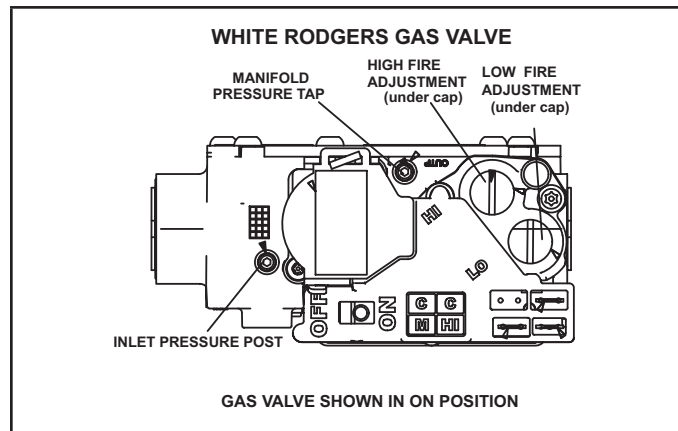
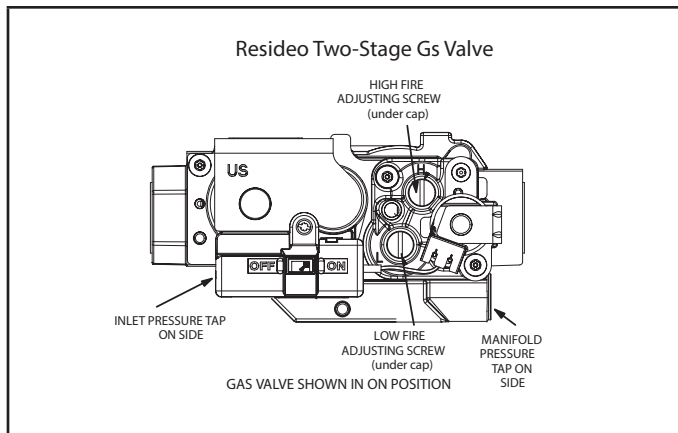

FIGURE 25
FIGURE 26
Gas Valve Operation (FIGURE 25 and FIGURE 26)
- 6 - Move switch on gas valve to OFF. Do not force. See FIGURE 25 and FIGURE 26.
- 8 - Move switch on gas valve to ON. Do not force. See FIGURE 25 and FIGURE 26.
An inlet post located on the gas valve provides access to the supply pressure. See FIGURE 25. Back out the 3/32 hex screw one turn, connect a piece of 5/16 tubing and connect to a manometer to measure supply pressure. See table 15 for supply line pressure.
A manifold pressure tap located on the gas valve provides access to the manifold pressure. See FIGURE 25. Back out the 3/32 hex screw one turn, connect a piece of 5/16" tubing and connect to a manometer to measure manifold pressure.
- 4 - If necessary, make adjustments. FIGURE 25 shows location of high fire and low fire adjustment screw.